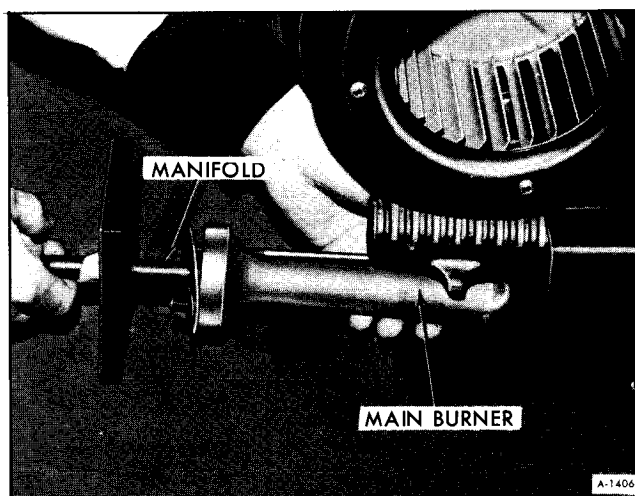

Figure 40—Removing Main Burner
4. Pull burner assembly out as shown in Figure 40.
2. Install burner assembly in combustion chamber (figure 40).
4. Pull burner assembly out (figure 40).
3. Install burner assembly in combustion chamber (figure 40).